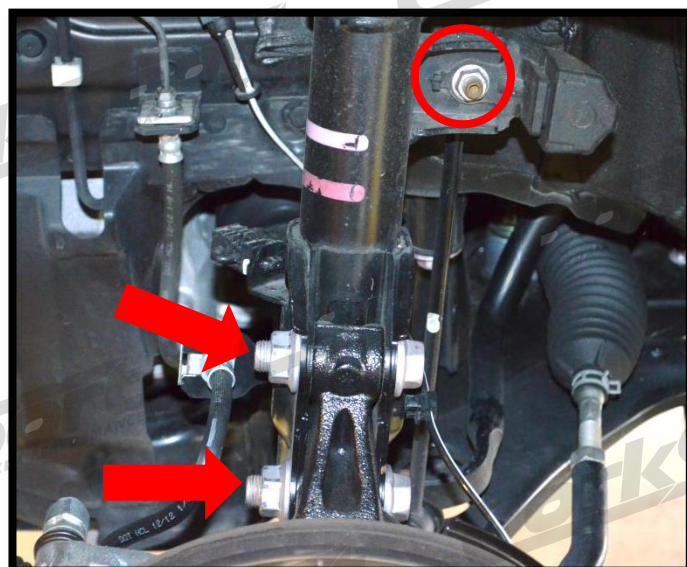

Figure 2e
- d) Remove the sway bar end link from the strut body (Figure 2e).
- e) Remove the two (2) 19mm lower strut bolts using a 19mm socket (Figure 2e).
d) **Remove the sway bar end link** from the strut body using a 14mm socket wrench (**red circle** in **Figure 2e**).
e) **Remove the two (2) 19mm lower strut bolts** using a 19mm socket and ratcheting wrench (**red arrows** in **Figure 2e**).